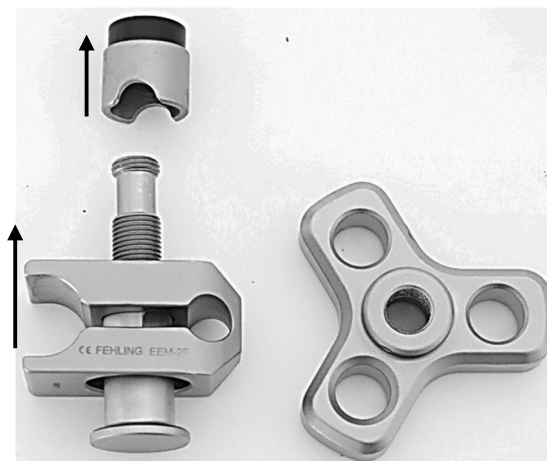

Fig. 18
First pull the clamping sleeve (2) from the threaded rod (4), then remove the clamping piece (3) (Fig. 18).